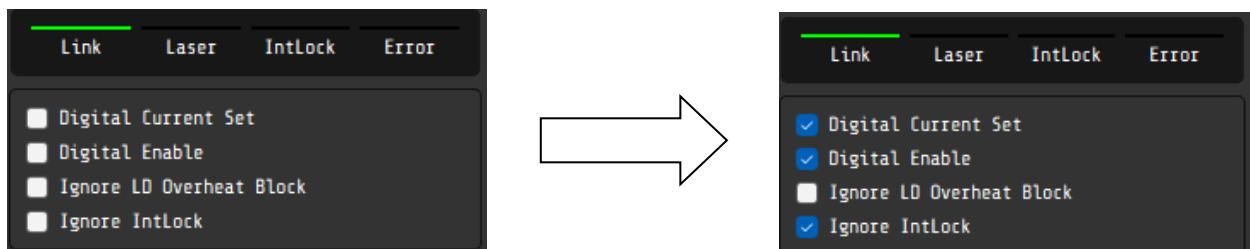

Figure 7. MAIMAN BENCHSOFT Device state flags panel
8. After parameters are set properly, please activate Device state flags panel which is shown below in Figure 7. In order to activate, tick the checkboxes to “Digital Current Set”; “Digital Enable” and “Ignore IntLock”.